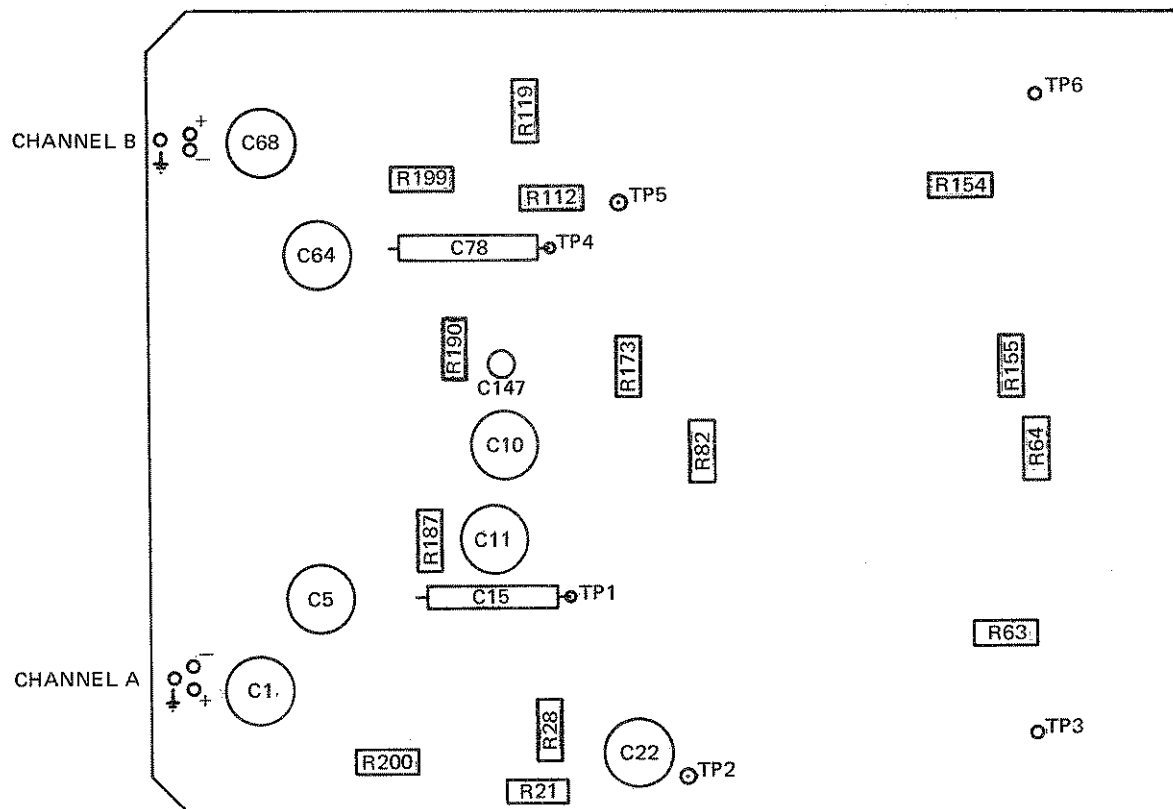
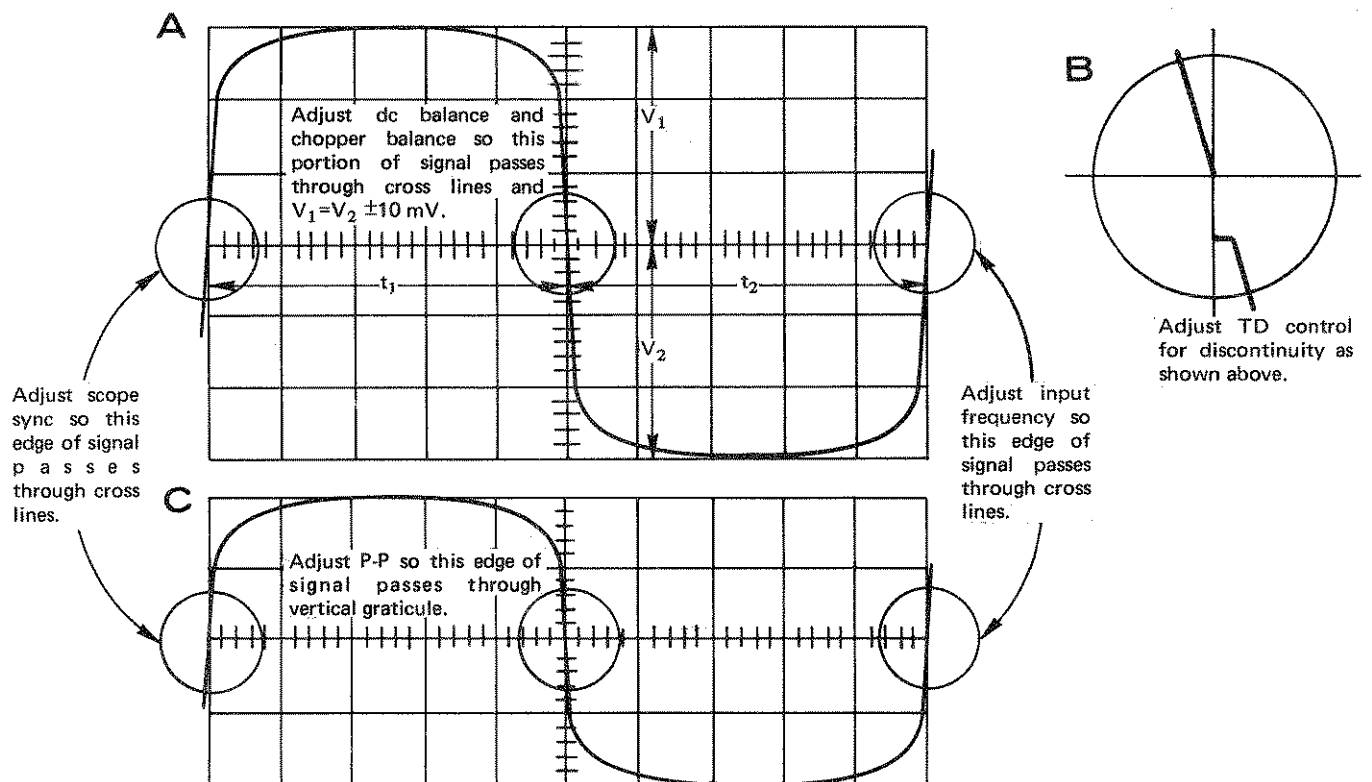

Figure 4-3. Zero Crossing Board Adjustment Locations
Figure 4-4. Oscilloscope Calibration Displays
28. Connect the scope probe to Channel A test point TP2 (Figure 4-3) of the Zero Crossing Board. The oscilloscope should display a waveform similar to the one shown in Figure 4-4[A].
29. Adjust DC BALANCE ADJ R28 so that V1 (Figure 4-4[A]) is equal to V2 (± 10 mV).
30. Adjust CHOPPER BALANCE ADJ R64 so that t_1 (Figure 4-4[A]) is equal to t_2 (± 1 μ S).
32. Adjust TD ADJ R63 until top of tunnel diode trigger is at zero volts dc (± 1 mV) as shown in Figure 4-4[B].
35. Increase the input signal amplitude to both channels to 1 V rms (2.8 V p-p). If reading changes more than $\pm 0.1^\circ$, adjust PK-PK ADJ R21 and R112 for accurate time symmetry at test points 2 and 5, as shown in Figure 4-4[C].